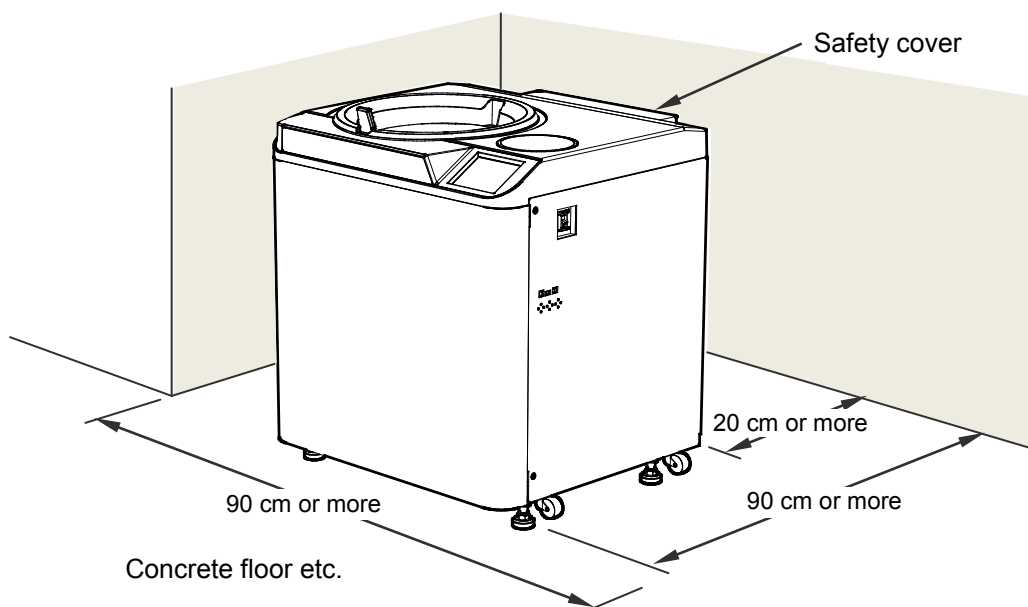

Fig.6-1 Place of installation
- (1) Install the ultracentrifuge on a concrete, stone, or hardwood floor. Avoid such places as soft floor, carpeted floor transmitting external vibrations to the ultracentrifuge.
- (2) Ambient temperature for operation is 2 to 40 °C. If the room temperature rises above 30 °C, the temperature of the rotor may become too high. Avoid installing the ultracentrifuge in direct sunlight or installing it at the place whose ambient temperature is higher than 30 °C.
- (3) The ultracentrifuge requires a clearance of more than 20 cm at its rear and a floor space of at least 90 x 90 cm (See Fig.6-1). Ensure the surrounding of the instrument has a free circulation of air. Avoid installing the ultracentrifuge near any other heat-generating machine/equipment, which might reduce the ultracentrifuge cooling capacity.